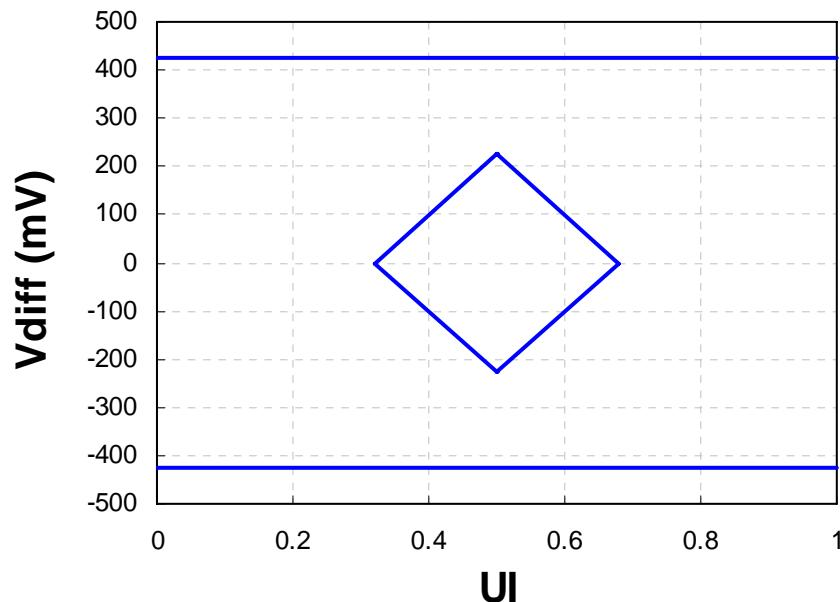

Figure 3. Receiver Output Differential Signal Mask
3. DC Coupled with 100Ω differential output impedance. **Must be AC-coupled on HOST.** See Figure 3 for output eye mask.